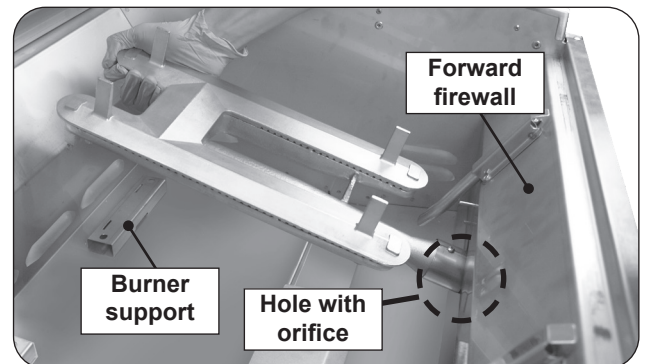

Fig. 34-3 Remove main burner
3. Carefully lift the burner from the burner support and out from the hole in the forward fire wall. See Fig. 34-3.